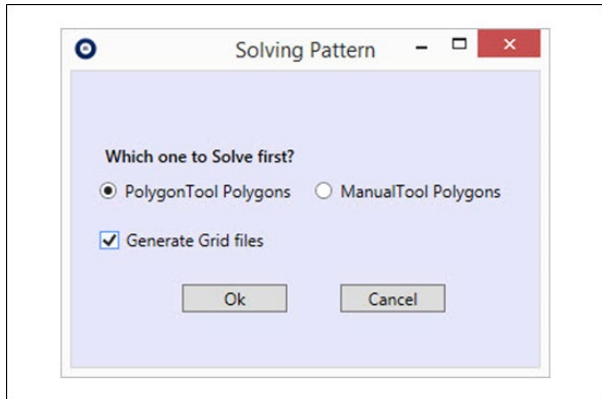

Figure 32-1
7. Select Ok to solve. See Figure 32-1.